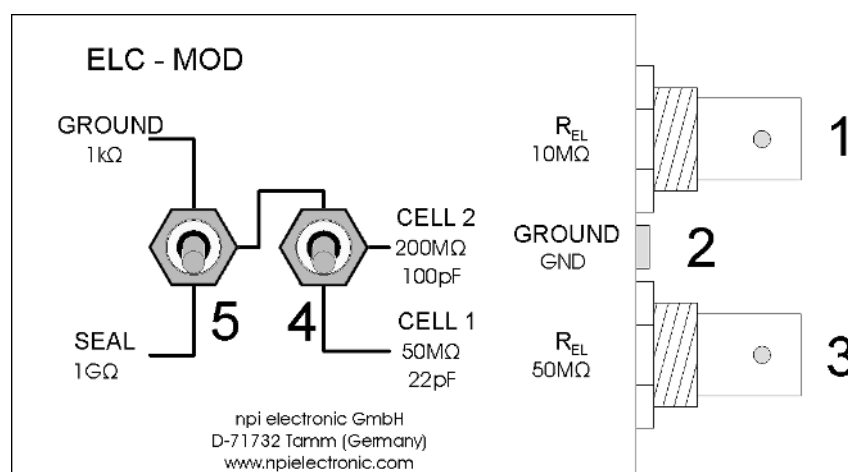

Figure 7: passive cell model
- o Set switch #4, Figure 7 to the upper position.
- o Set switch #5, Figure 7 to GROUND position. The $1\text{ k}\Omega$ resistor simulates the resistance of the bath solution. This can be used to train cancellation of offsets, using the bridge balance and using the capacity compensation.
- o Set switch #5, Figure 7 to SEAL position. The $1\text{ G}\Omega$ resistor simulates the SEAL resistance when forming a GIGASEAL in patch clamp experiments.
Intracellular recordings can be mimicked with one of two cells with different properties. Use the $50\text{ M}\Omega$ electrode connector (#1, Figure 7) for an experiment with sharp electrodes or the $10\text{ M}\Omega$ electrode connector (#3, Figure 7) for simulating an experiment with patch electrodes.
- o Switch the CELL membrane switch (see #4, Figure 7) to the desired position (CELL 1 or CELL 2).